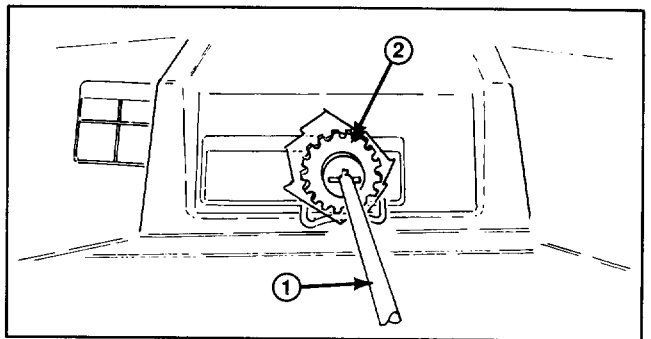

Figure 3
2. Secure deflector to discharge chute with (2) 5/16-18 UNC carriage bolts, metal washers, and locknuts. Make sure the square shoulders on the carriage bolts align with inside square on discharge chute. Position metal washers to the outside of deflector as shown in Figure 3. **DO NOT OVERTIGHTEN BOLTS.**